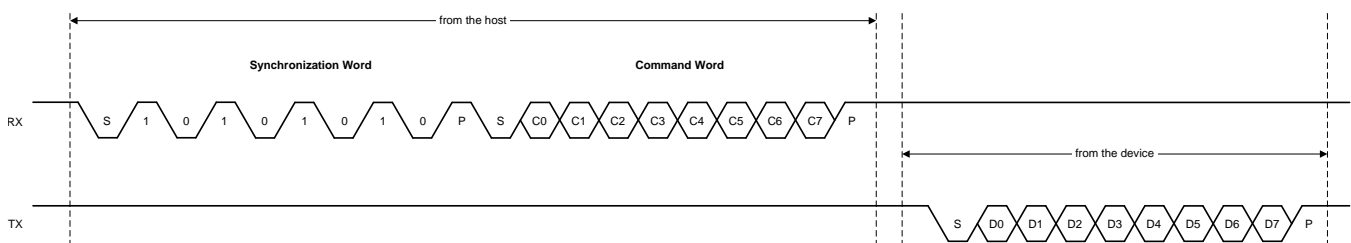

图 58. Example ADS112U04 UART Protocol
Figure 58 shows the timing sequence for the UART communication. In Figure 58, as an example, there is only one byte for the command and one byte for the readback data. There may be multiple bytes for a command or the data that is read from the device. The protocol takes the 8-N-1 format: eight (8) data bits, no (N) parity bit, and one (1) stop bit.